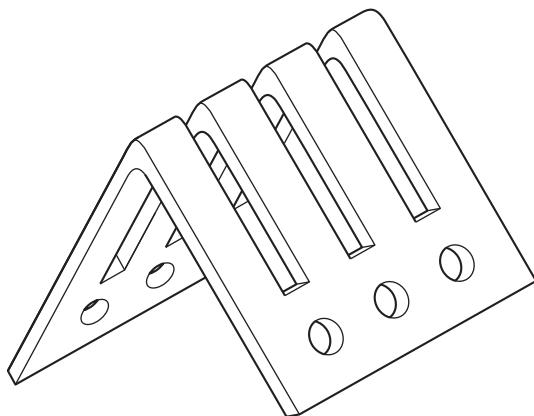

Fig. 8
Fig. 8 shows a toast rack to be used in a chain of hotels.
- (a) Give **four** justified design requirements for the toast rack to be used in a chain of hotels shown in Fig. 8.
- (e) (i) State a **suitable specific material** for the toast rack shown in Fig. 8 and give **two** properties or characteristics that make the material suitable for this use.
- (ii) Describe, in detail, how the toast rack shown in Fig. 8 would be manufactured as a batch of 50,000. Include details of specialist tooling used.